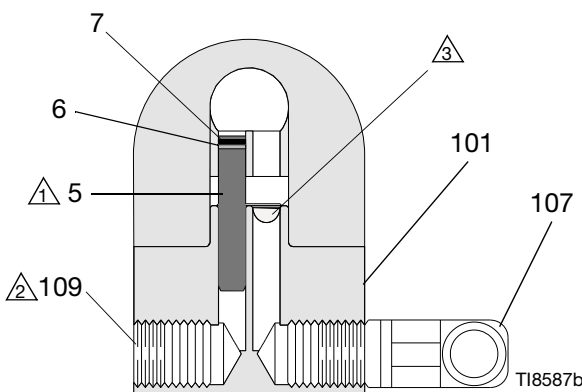

FIG. 1: Non-Circulating Setup Shown (cutaway view)
1. See FIG. 1. Apply anti-seize lubricant 222955 to the threads and mating faces of the manifold (101), plug (109), and elbow (107), supplied unassembled.
2. Install an elbow (107) in one fluid port of the manifold (101), and a plug (109) in the other port.
3. Install the internal plug (5) in the gun fluid port on the same side as the manifold plug.
4. Connect the fluid supply hose to the manifold elbow (107).
5. Install the gun on the manifold, using the four screws (17). Start the threads of all four screws, and tighten the front two screws first, and then tighten the back two screws to 65 in-lb (7.3 N•m).
- ⚠ 2 Replace with a reducing nipple (107) when used in circulating systems.